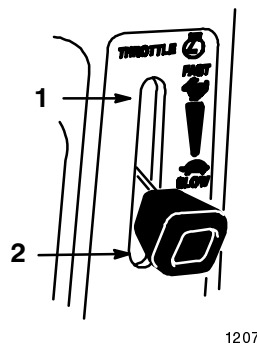

Figure 4
5. Move throttle lever to “FAST” (Fig. 4).
- After the engine starts, move the choke lever to “OFF”. Slowly move the throttle to the desired setting (Fig. 4). If the engine stalls or hesitates, move the choke lever back to “ON” for a few seconds. Then move the throttle lever to desired setting. Repeat this as required.
- Move the throttle lever to “SLOW” (Fig. 4).